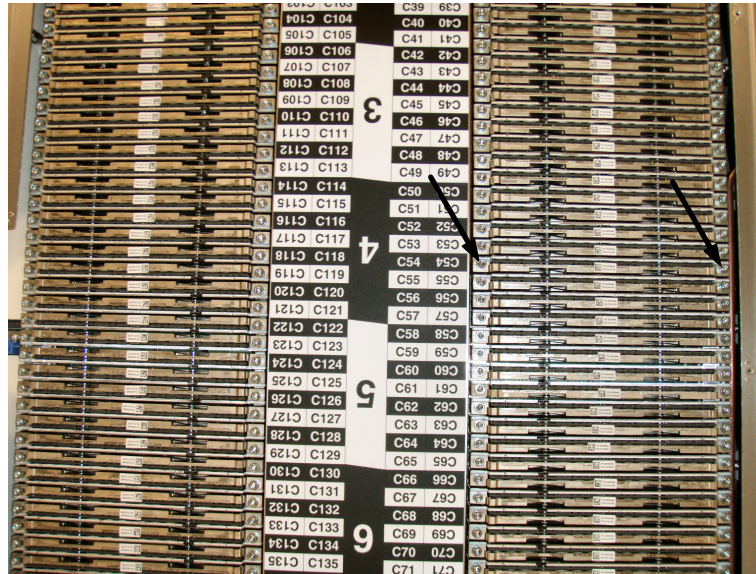

Figure 38 DIMM Captive screw locations
STEP 51 Using the 3mm hex driver PN 74Y0998, remove the DIMM by loosen the 2 captive screws of the DIMM. (Figure 38 below points to the 2 screws for DIMM C54)